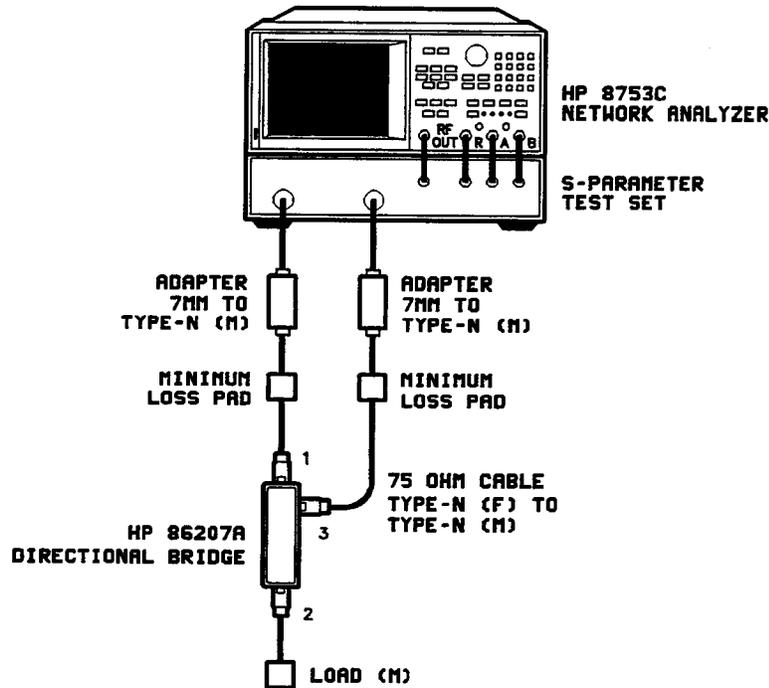

Figure 3-3. Equipment Setup for Coupling Loss Measurement
6. Connect the equipment as shown in Figure 3-3.